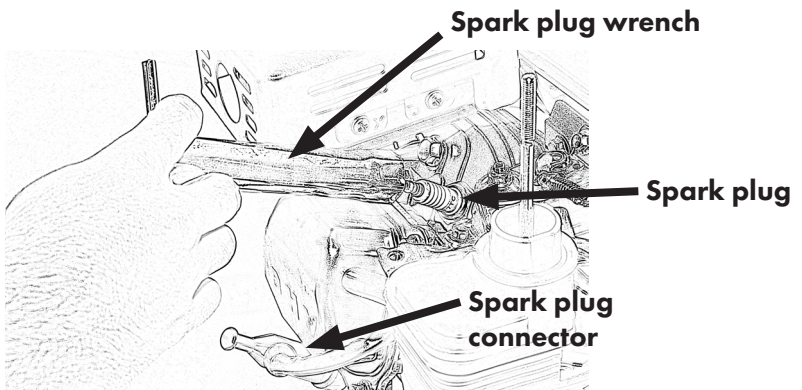

Figure 27
- Remove the spark plug cap and loosen the spark plug using the spark plug wrench, Fig. 27.